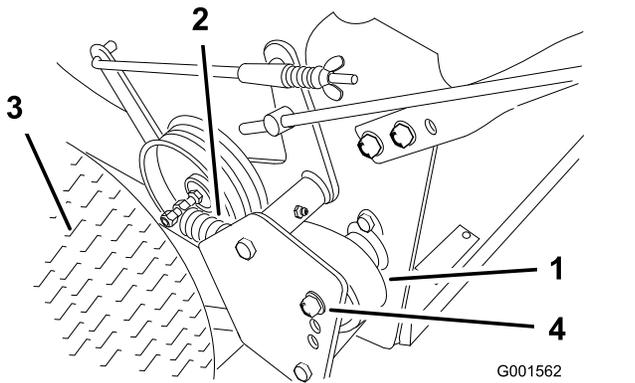

Figure 37
1. Remove the hairpin cotter securing the brake rod to the brake arm to relax the tension on the belt idler (Figure 37).
2. Remove the bottom bolt and loosen the top bolt of the shield to rotate it for belt clearance (Figure 37).
3. Lift the belt past the idler and off the drive pulley (Figure 37).
6. Secure the shield with the previously removed bolt, and tighten the bolts (Figure 37).
7. Secure the brake rod to the brake arm with the hairpin cotter (Figure 37).